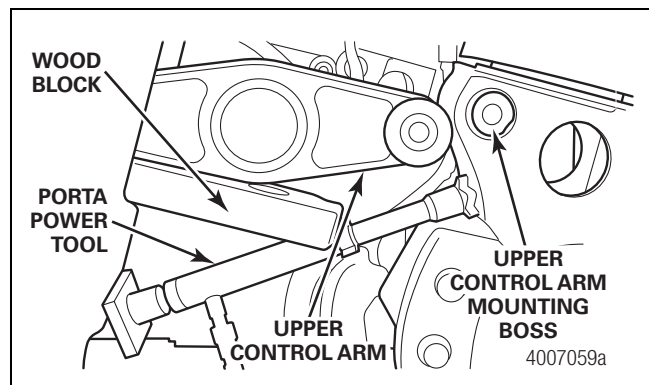

Figure 4
1. After you have performed the procedures in Technical Bulletin TP-0482 to disassemble the suspension, position the axle as shown in Figure 4. If necessary, position the Porta Power tool on the opposite side to protect the ram from debris when cutting. Cover the air spring with a weld blanket to protect it during the cutting process.